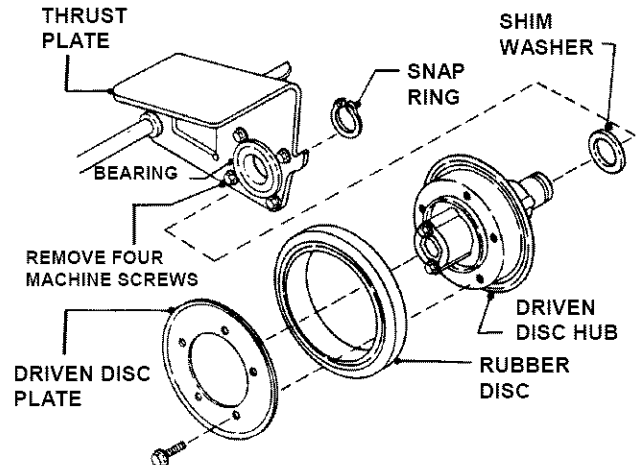

FIGURE 4.14
- Remove snap ring that secures driven disc hub to thrust plate. See Figure 4.14.